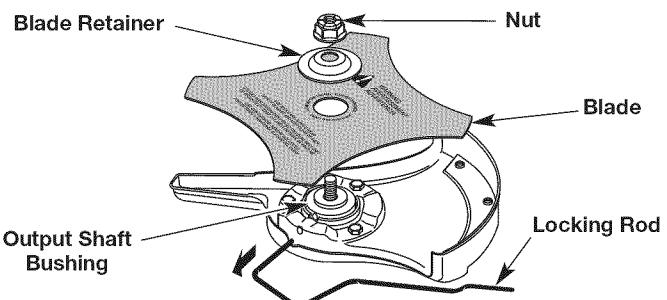
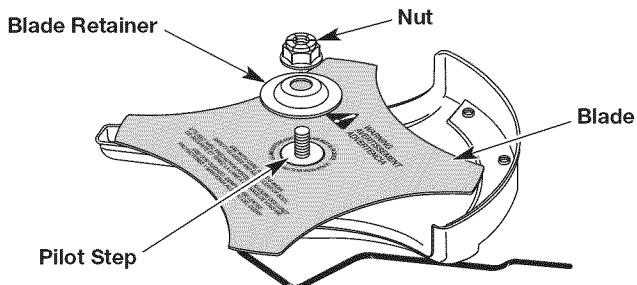

Fig. 18
Fig. 19
4. Remove the locking rod (Fig. 18).
5. Remove the nut, blade retainer and blade (Fig. 18).
1. Put the blade on the output shaft bushing (Fig. 18). Make sure the blade is centered on the pilot step (Fig. 19). The blade should sit flat against the output shaft bushing.
4. While holding the locking rod in place, put the blade retainer and nut on the output shaft (Fig. 19).